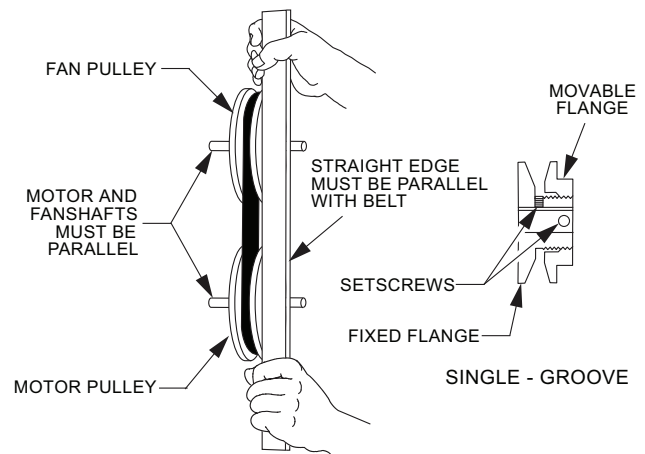

Fig. 13 — Supply-Fan Pulley Adjustment
The motor pulley is an adjustable-pitch type that allows a servicer to implement changes in the fan wheel speed to match as-installed ductwork systems. The pulley consists of a fixed flange side that faces the motor (secured to the motor shaft) and a movable flange side that can be rotated around the fixed flange side that increases or reduces the pitch diameter of this driver pulley. (See Fig. 13.)
3. Loosen movable pulley flange setscrew. (See Fig. 13.)
24. Align the motor pulley and blower wheel pulley using a straight edge. See Fig. 13.